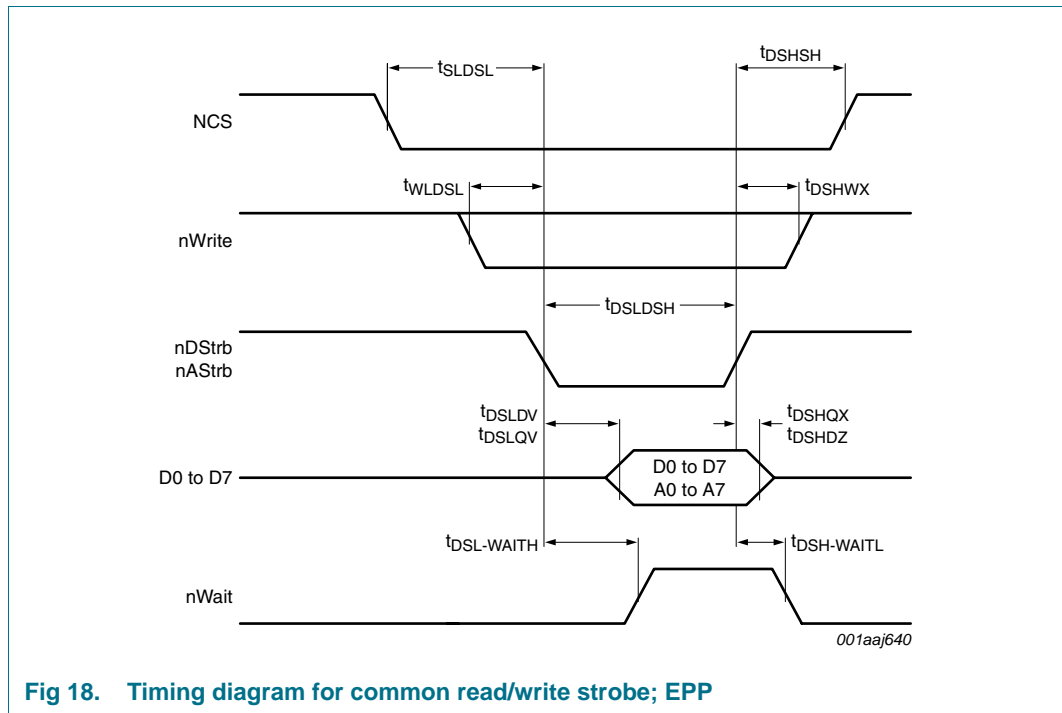

Fig 18. Timing diagram for common read/write strobe; EPP
**Remark:** Figure 18 does not distinguish between the address write cycle and a data write cycle. The timings for the address write and data write cycle are different. In EPP mode, the address lines (A0 to A2) must be connected as described in Section 8.1.3 on page 7.